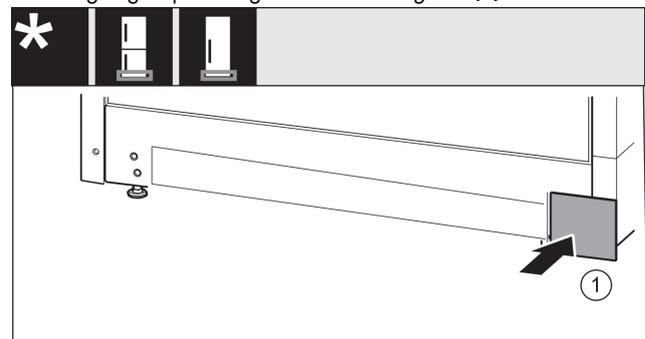

Fig. 21
- ▶ Put the cover back on the other side. Fig. 21 (1)